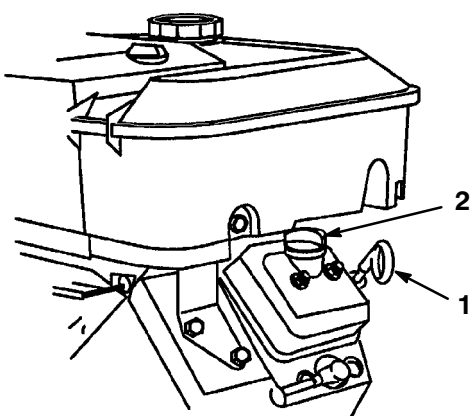

Figure 11
2. Remove dipstick and wipe it with a clean rag (Fig. 11). Insert dipstick into tube and make sure it is seated fully. Remove dipstick and check level of oil.
3. If oil level is low, remove filler cap from valve cover (Fig. 11) and pour oil into opening until the oil level is up to the "FULL" mark on the dipstick; refer to Engine Oil, page 23, for proper oil type and viscosity. Add the oil slowly and check the level often during this process. **Do not overfill.**